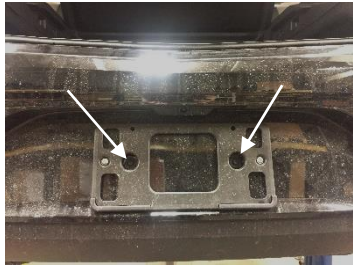

Figure 2
- 1. Bumper fascia removal** – Open the trunk. Use T15 driver to remove (5) screws from wheel well liner each side. Push the liner aside. Using a 7mm socket, remove the screw holding the fascia to the fender each side. Remove the license plate to remove (2) screws with a T15 driver see **Fig. 2**. Remove the taillights to reveal two fascia tabs. Remove the access panel inside the trunk, behind the taillight. Unscrew (2) plastic wingnuts, gently pull on taillight, straight rearward, unplug the taillight. Push down on the fascia tabs to release while gently pulling on the fascia. Using plastic trim tools, gently remove the plastic fascia starting at the outer edges near the wheel wells. Disconnect the wiring from fascia if equipped.